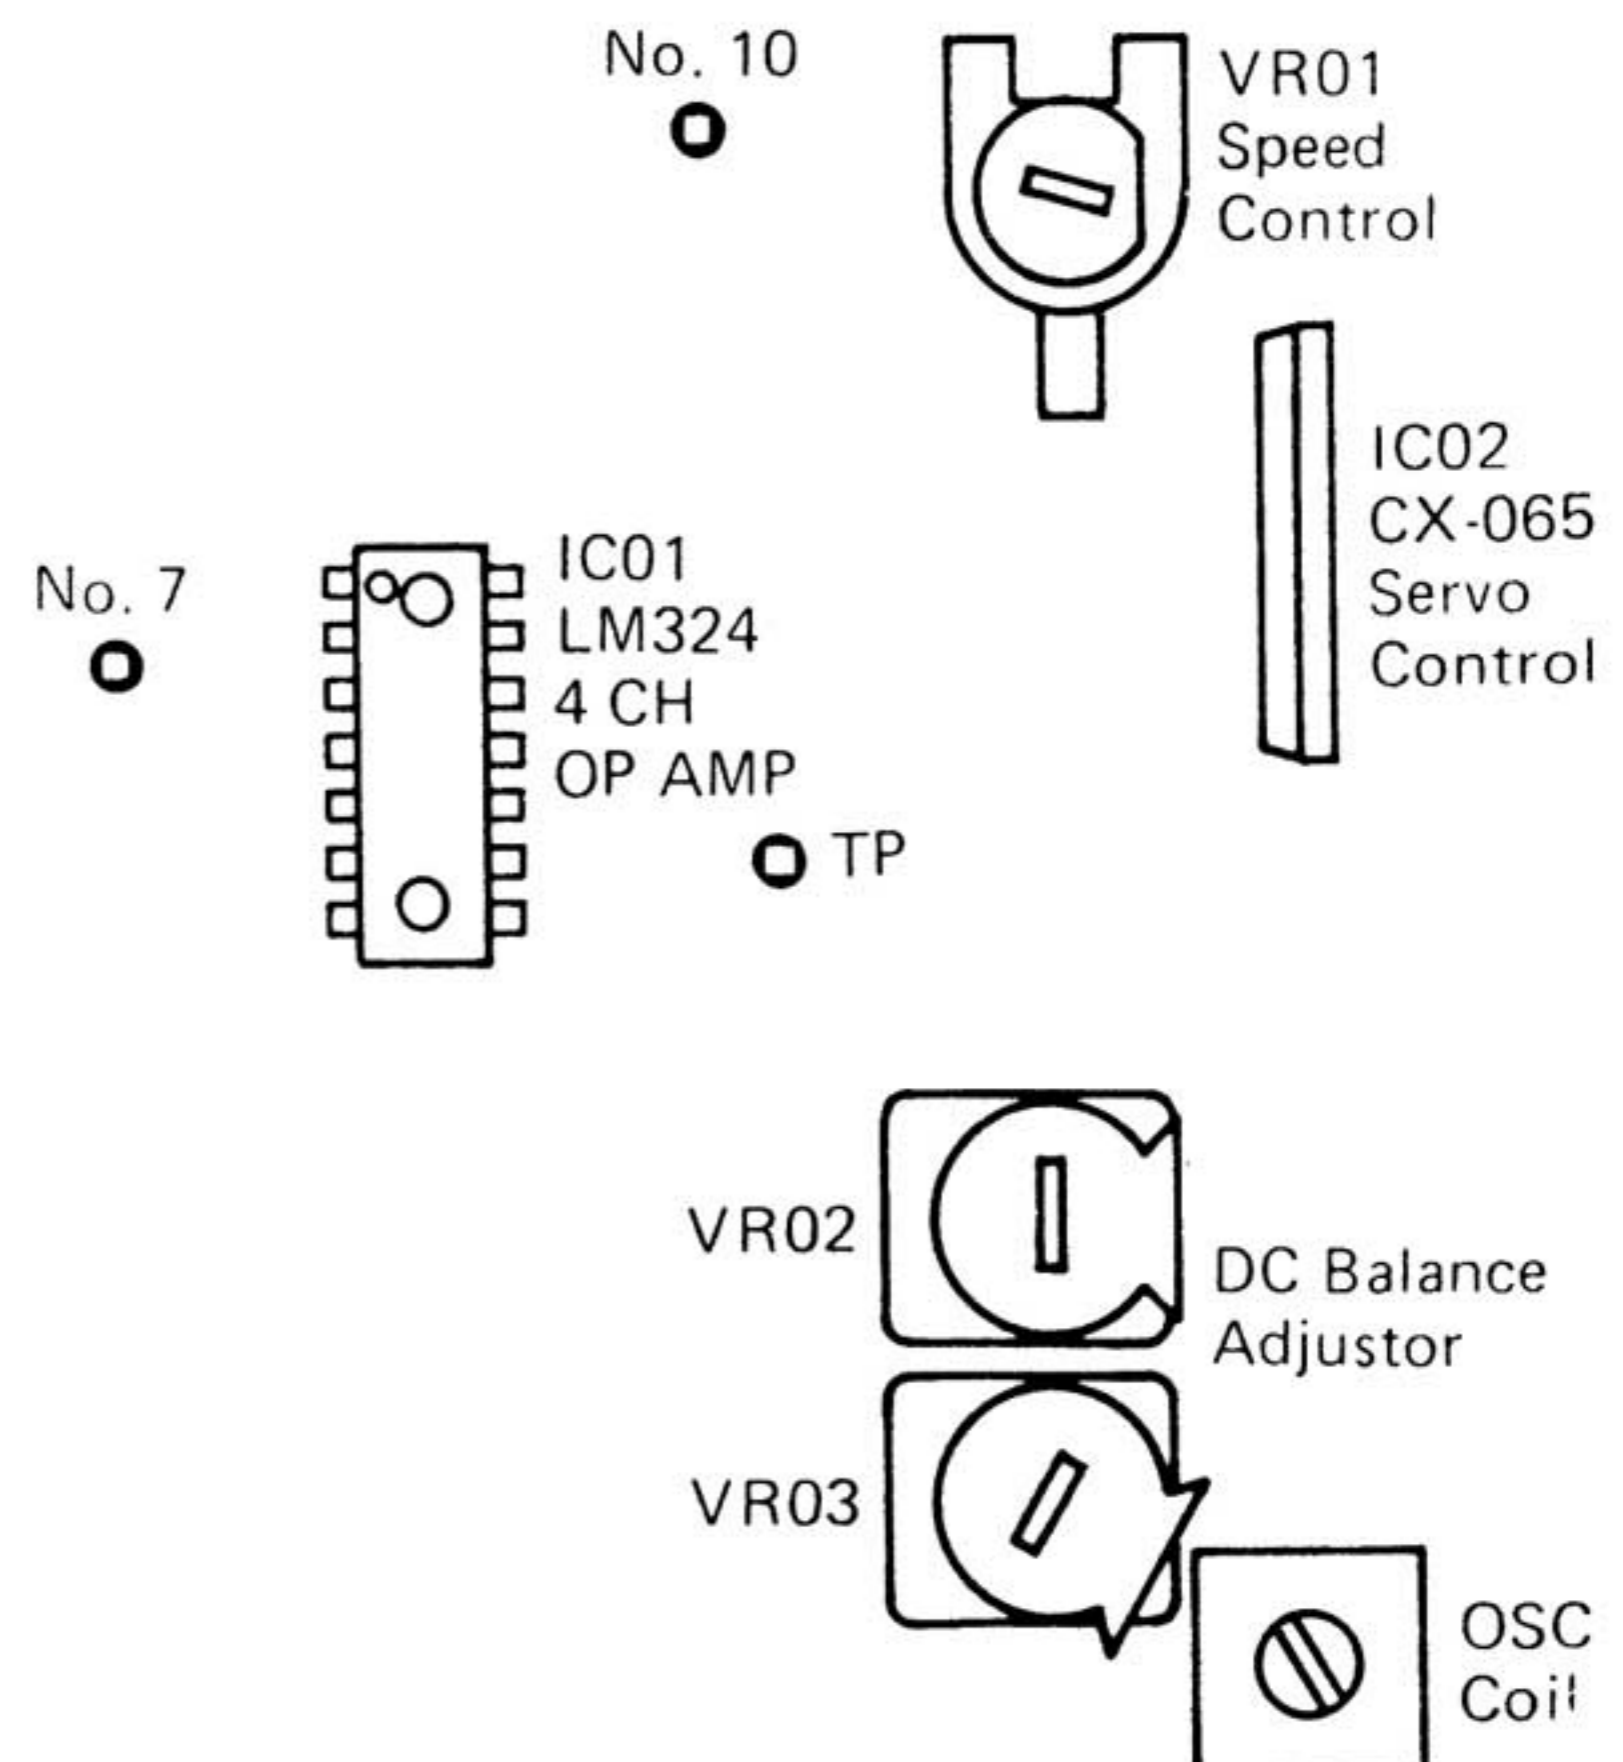

Fig. 19
- Set the speed selector to 33 or 45 rpm and adjust VR01 (100K-B) for zero deviation by observing the stroboscope. (Fig. 19)
- Connect a DC VTVM between test points and terminal No. 10, and subsequently between test point and terminal No. 7. Adjust first VR03 and then VR02 for minimum DC voltage, the value measured should be less than 10mV DC when simultaneously measured with two DC VTVM. (Fig. 19)